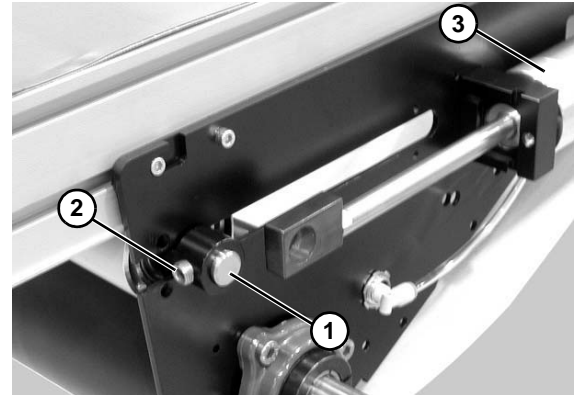

Figure 104
5. Push shaft (**Figure 104, item 1**) through block (**Figure 104, item 2**), and slide block towards air cylinder (**Figure 104, item 3**).